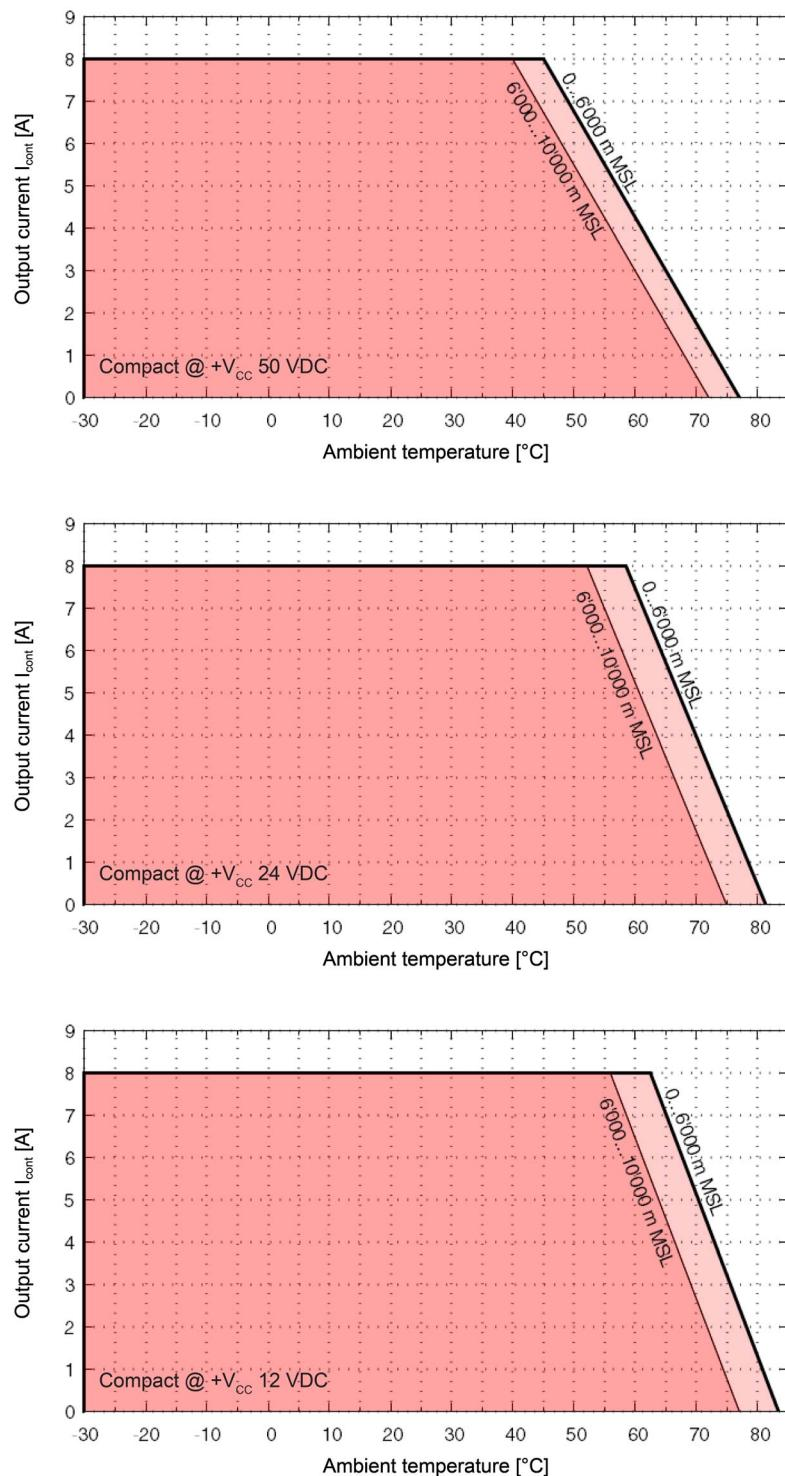

Figure 2-3 Derating of output current
Extended range (1)	+45...+77 °C Derating -0.250 A/°C (→Figure 2-3)
Extended range (1)	6'000...10'000 m MSL Derating →Figure 2-3